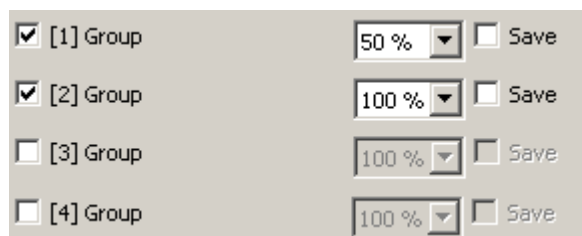

Figure 50: Example of a group assignment to a scene
Groups and single devices can be assigned to a scene without restrictions. Each group and each single device can be assigned independently by activating the checkbox in front of the group or single device name in the scene configuration (Figure 50). Groups and single devices, whose checkboxes are not activated, are not assigned to the scene. Any non-created groups or single devices of the DALI Gateway are greyed out and thus cannot be edited.
- In the parameter node "Scenes -> [x] Scene name", specify the necessary scene brightness value for each DALI group assigned to the scene and each assigned single device (Figure 50).
- In the parameter node "Scenes -> [x] Scene name" activate the "Save" checkbox for the DALI groups and single devices, which are to react to the memory function (Figure 50).